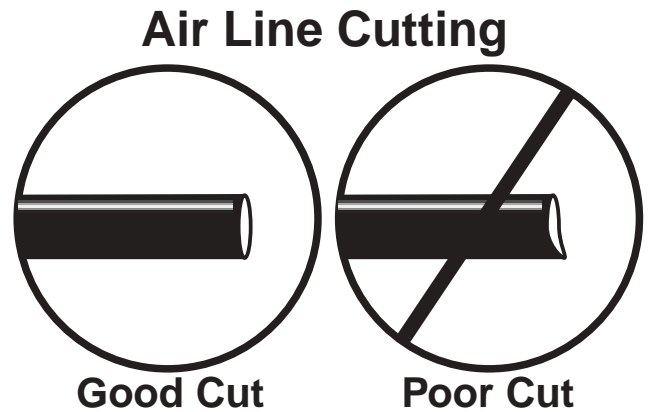

Figure 15
4. Refer to Figure 15 to assist with air valve installation.